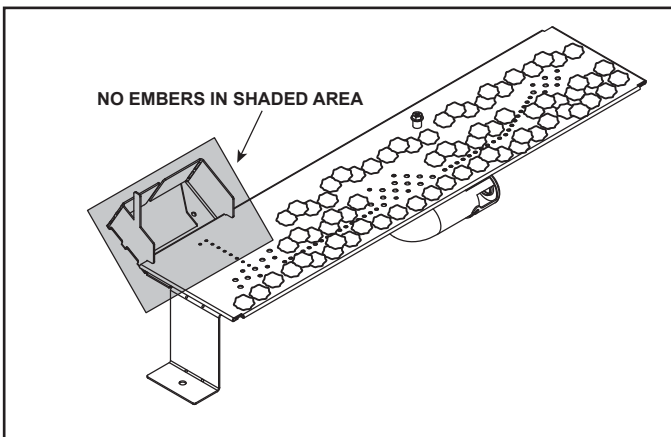

Figure 11.2 Placement of Embers
- Embers **CANNOT** be placed in pilot bracket area. See Figure 11.2. Care should be taken not to cover the lighting trail of ports (from back to front).
- When placing Glowing Embers® onto the burner care should be taken so that the ports are not covered. Place the dime-size ember pieces near the port holes in the burner top (see Figure 11.2). Failure to follow this procedure will likely cause lighting and sooting problems.